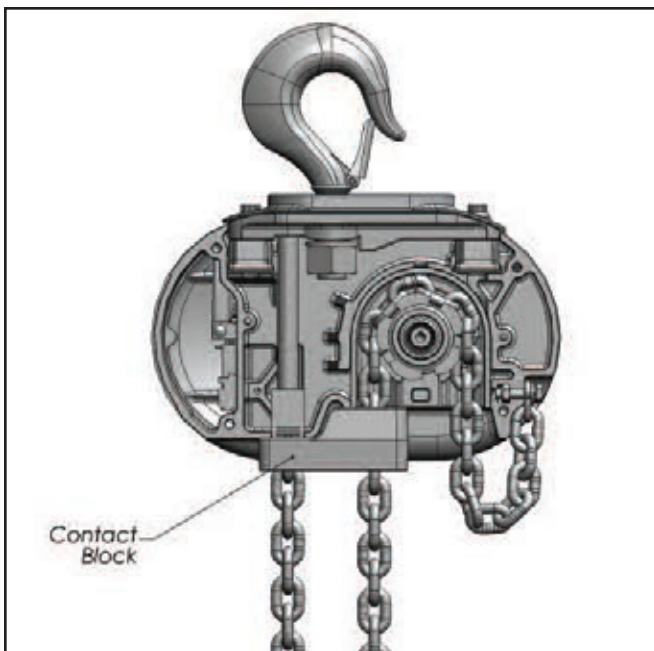

Figure 8. Contact Block Used on Models R, R-2, RR and RR-2
2. On Models E, E-2, H and H-2, insert the last link of the load chain into the dead end block (2) and secure it with the dead end pin, washer and cotter pin furnished with the suspension. Ensure there are no twists in the chain.
3. On Models R, R-2, RR and RR-2, slide the contact block up the chain until it is against the bottom of the hoist and the dead end block is projecting through the square opening in the bottom of the block. Insert the last link of the load chain, making sure there are no twists between the hook block and the dead end block, into the dead end block. Push the contact block up slightly and secure the load chain to the dead end block using the dead end pin, washer and cotter pin furnished with the suspension. The dead end pin also supports the contact block (See Figure 8)